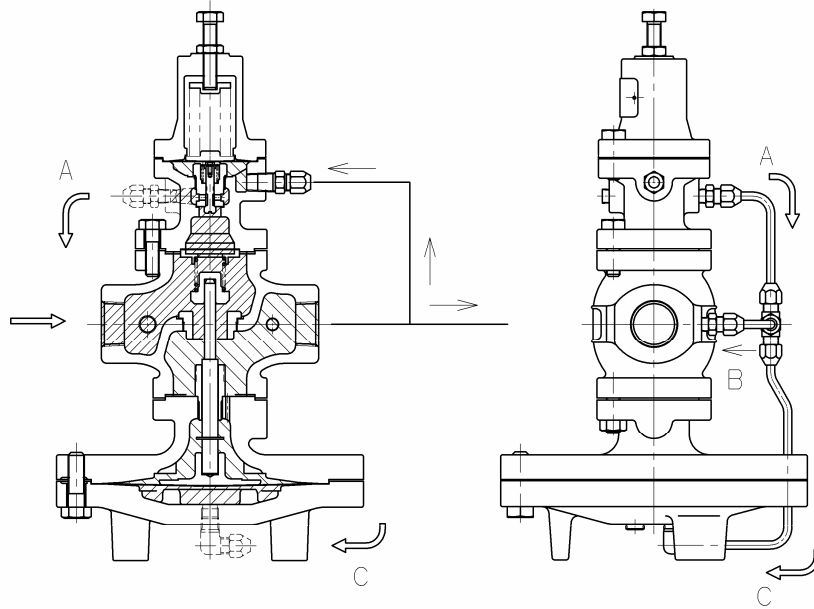

Fig. 4
- (4) Reduced pressure is led to the pilot diaphragm chamber [23]-1 via the sensing pipe and reduced pressure sensing port [56]. The pilot diaphragm receives the reduced pressure to be balanced with the spring load. The pilot valve travel is controlled by the spring load and pressure applied to the pilot diaphragm due to variations in reduced pressure. This changes the flow rate of fluid to the main diaphragm chamber, which controls the main valve travel to obtain appropriate reduced pressure. (**Fig. 4**)